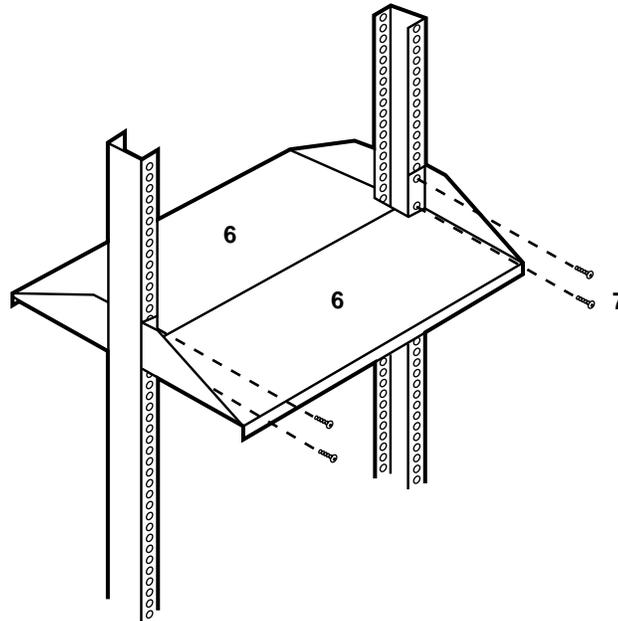

Figure 3-4. Attaching the Shelves.
1. Attach the shelf to the vertical channels by inserting four of the included panhead screws through the mounting flanges in front of the shelf and tapped holes in the vertical channels, as shown in Figure 3-4.